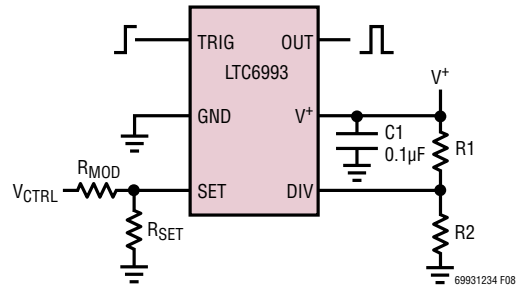
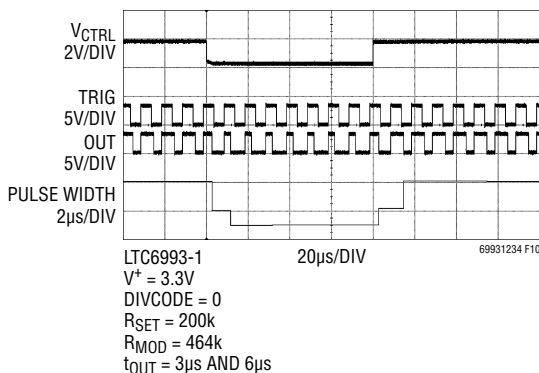

Figure 8. Voltage-Controlled Pulse Width
Figure 10. Typical Settling Time
With one additional resistor, the LTC6993 output pulse width can be manipulated by an external voltage. As shown in Figure 8, voltage V_{CTRL} sources/sinks a current through R_{MOD} to vary the I_{SET} current, which in turn modulates the pulse width as described in Equation (3).
Following a 2× or 0.5× step change in I_{SET} , the output pulse width takes approximately six master clock cycles ($6 \cdot t_{MASTER}$) to settle to within 1% of the final value. An example is shown in Figure 10, using the circuit in Figure 8.